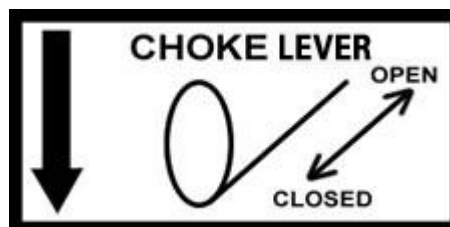

Figure 5 - Choke Lever in the "closed" position. (Refer to the Generator Components chart to find the location of the Choke Lever.)
4. Move the choke lever to the "closed" position as shown in Figure 5.